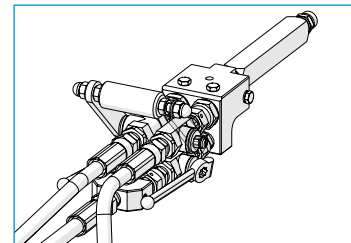

Fig. 16 Connecting to the mixing unit
2. Connect the other end of the hose to the manifold of the mixing unit, see Fig. 16.